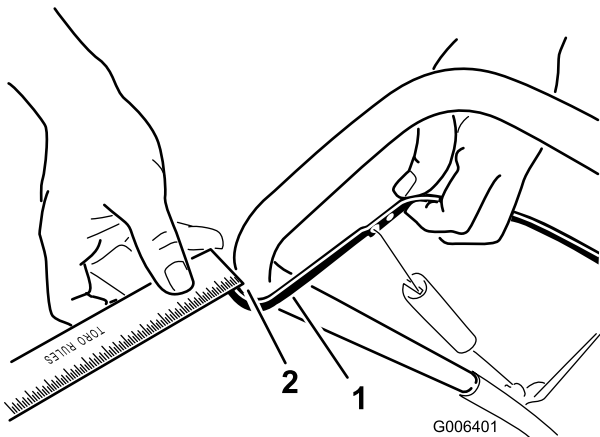

Figure 21
Move the control bar back toward the handle to remove the slack in the control cable (Figure 21).
Note: Ensure that a 1/16-inch to 1/8-inch (2 mm to 3 mm) gap exists between the control bar and the handle (Figure 21).
2. Move the Z-fitting to a higher or lower hole on the adjuster link as needed to obtain the 1/16-inch to 1/8-inch (2 mm to 3 mm) gap between the control bar and the handle (Figure 21).